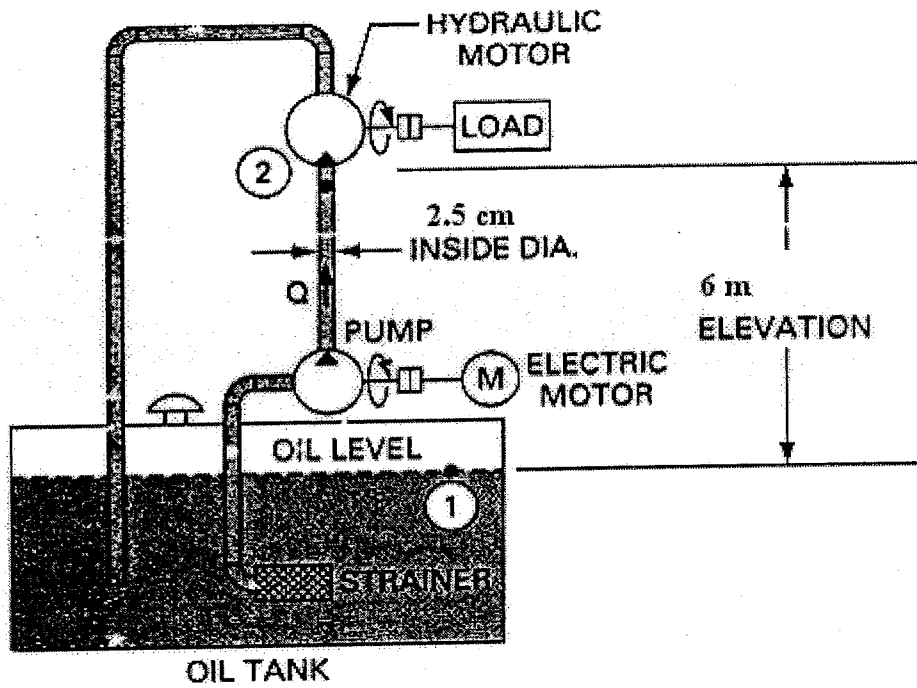

Figure 1B (*Rajah 1B*)
- [b] For the hydraulic system of Figure 1B the following data are given: